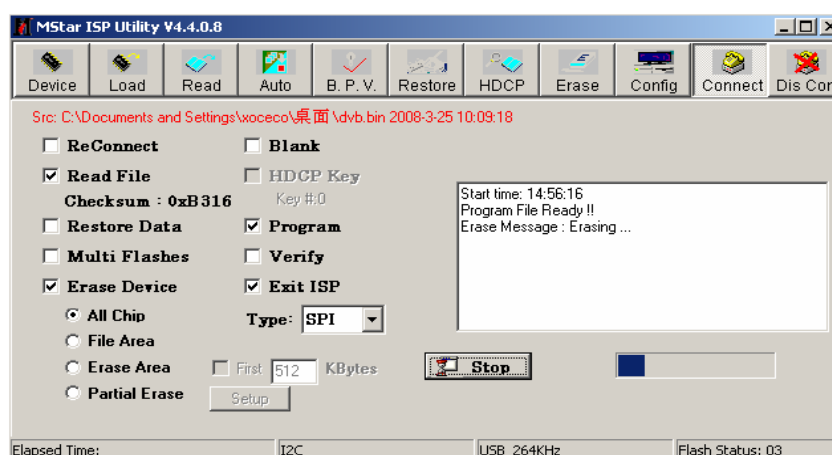

Fig. 5 Option switches
- 5) Press menu “**Auto**”, tick options “**All chip**” and “**program**”, please refer option switches to Fig.5;